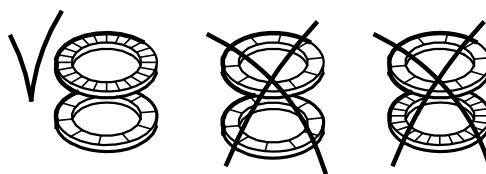

Fig. 20 Correct fitting of washers
9. Fit short spacing pipe (pos. 64a), impeller (pos. 49), gasket (pos. 139c) and chamber (pos. 4g).
10. Fit gasket (pos. 139b), spacing pipe (pos. 64), impeller (pos. 49) and chamber (pos. 4).
11. Continue the assembly until clamp (pos. 64c). For correct fitting of chambers and impellers, see section 8. *Order of assembly for chambers and impellers*.
12. Fit impeller (pos. 49), clamp (pos. 64c), washers (pos. 66) and nut (pos. 67). See fig. 20.